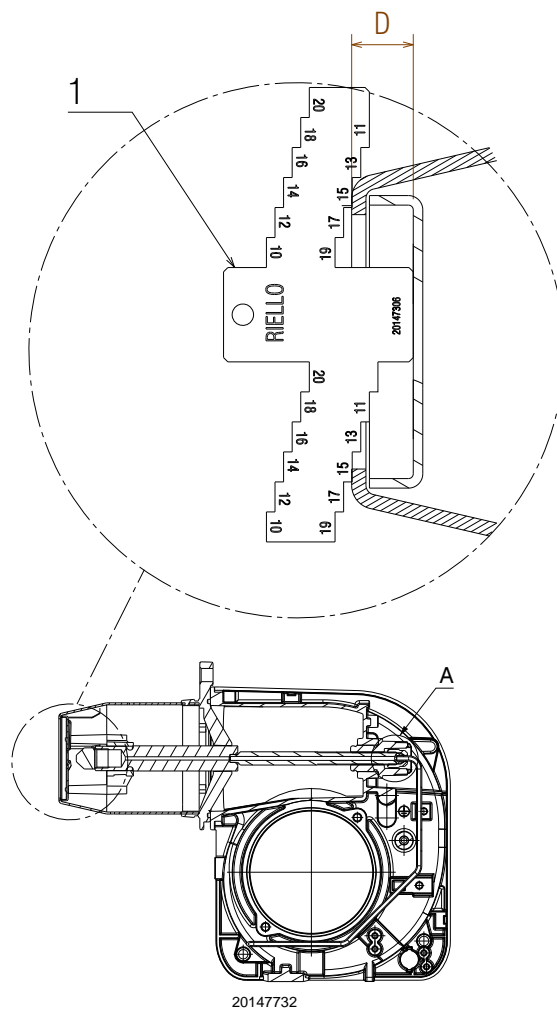

Fig. 17
Make sure the screw 3)(Fig. 17) is positioned in its seat 7).
Using the supplied gauge 1)(Fig. 17)(P/N 20147306) check the dimension "D".
Adjustments can be made by rotating the adjustment knob A)(Fig. 17).
Where the recommended head setting is for example 11.5 mm using the universal gauge set the combustion head to 11 mm and then open the head setting by a further half rotation of the head adjuster seen in Fig. 17.
A)(Fig. 17):